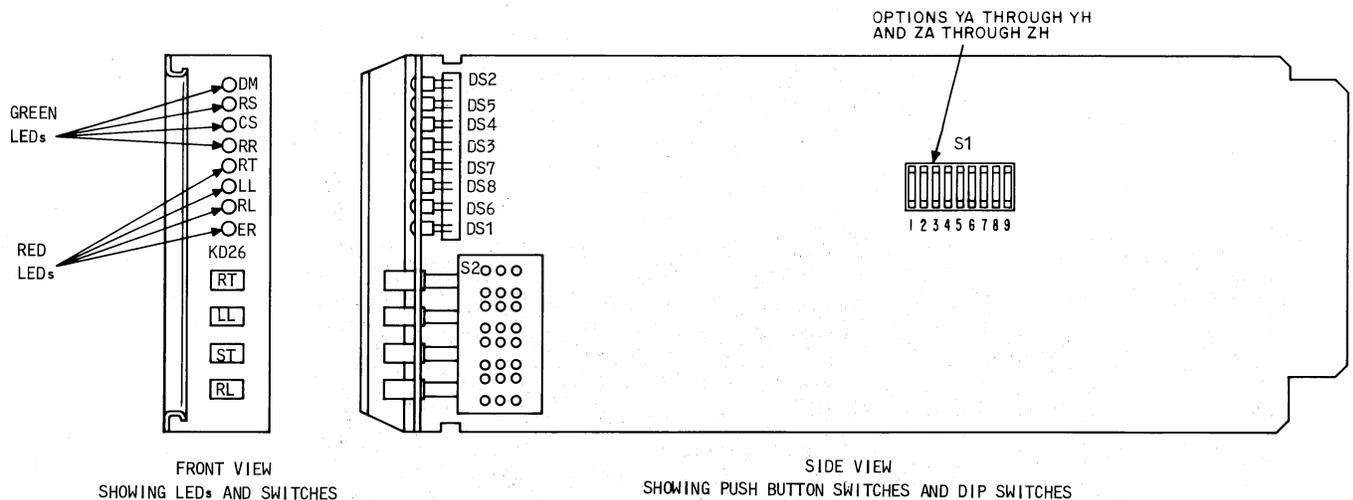

Fig. 7—Port CP KD26
- Port CP KD26 (Fig. 7)—One required for each customer data terminal. The faceplate of this CP contains four red LED indicators (RT, LL, RL and ER), four green LED indicators (DM, RS, CS and RR), and four push-to-operate and push-to-release switches (RT, LL, ST and RL).